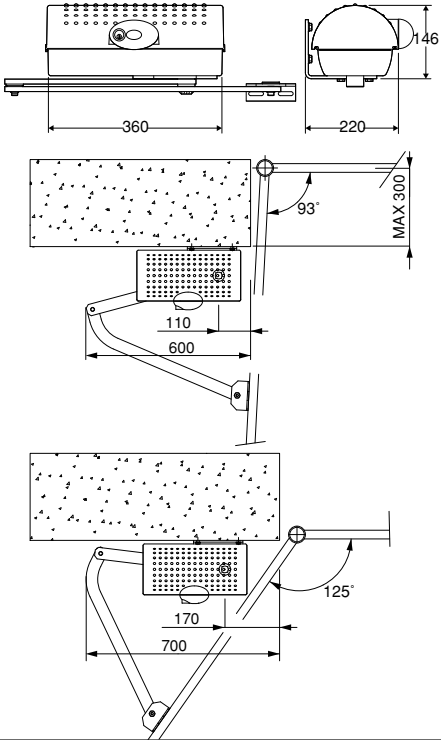
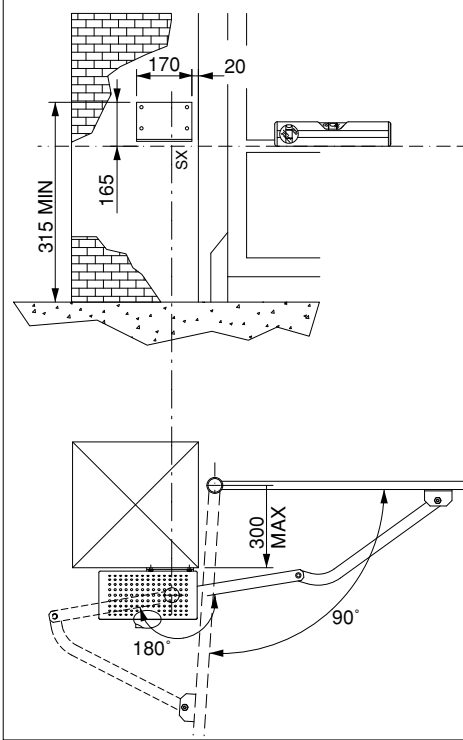

Fig. 2
Fig. 3
- The gate structure is sufficiently sturdy and rigid. The fixing position must be worked out according to the leaf structure. In any case, the manoeuvring arm must push against a reinforced leaf point (fig. 2).
5) FIXING OF SUPPORTING PLATE (Fig.2)
The controller is supplied complete with anchoring bracket and lever arm. Once the reinforcement point of the leaf has been identified with the gate closed, draw an imaginary horizontal line from the centre of the reinforcement point to the gate post (fig.2). Position the anchoring bracket according to the values given in fig. 2 for openings of up to 90° or in fig.3 for openings greater than 90° up to a maximum of 125°.